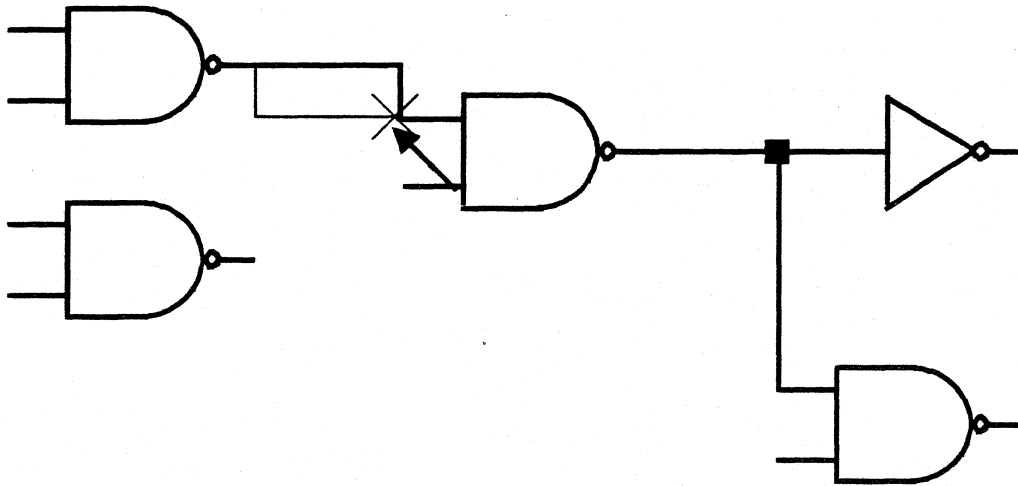

Figure 2.23
- 6) Now you can draw a second line beginning at the endpoint of the first. This line is perpendicular to the first line. Move the cursor to stretch the line to the length you want (figure 2.23). Notice that the "X" moves along the net. It shows you the most logical place to rejoin your lines to the net. Press the left button to mark the endpoint of the line.